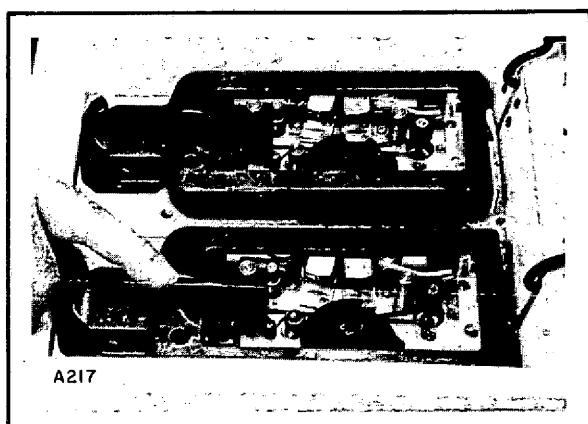

Fig. 3-1. Move the Locking Lever to the Unlock Position
- a. After opening the access cover, move the locking lever to the unlock position. (See figure 3-1.)